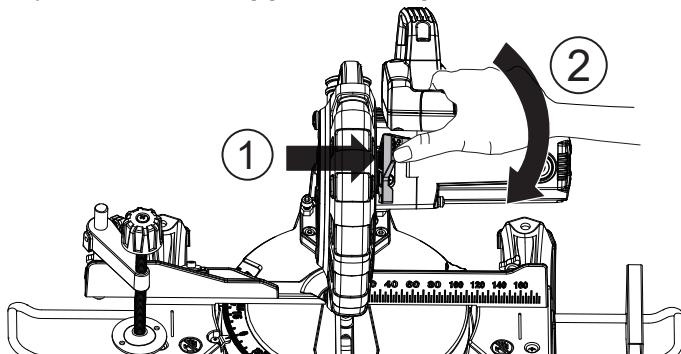

Figure 18
1. STARTING THE SAW (SEE FIG. 18, 19)